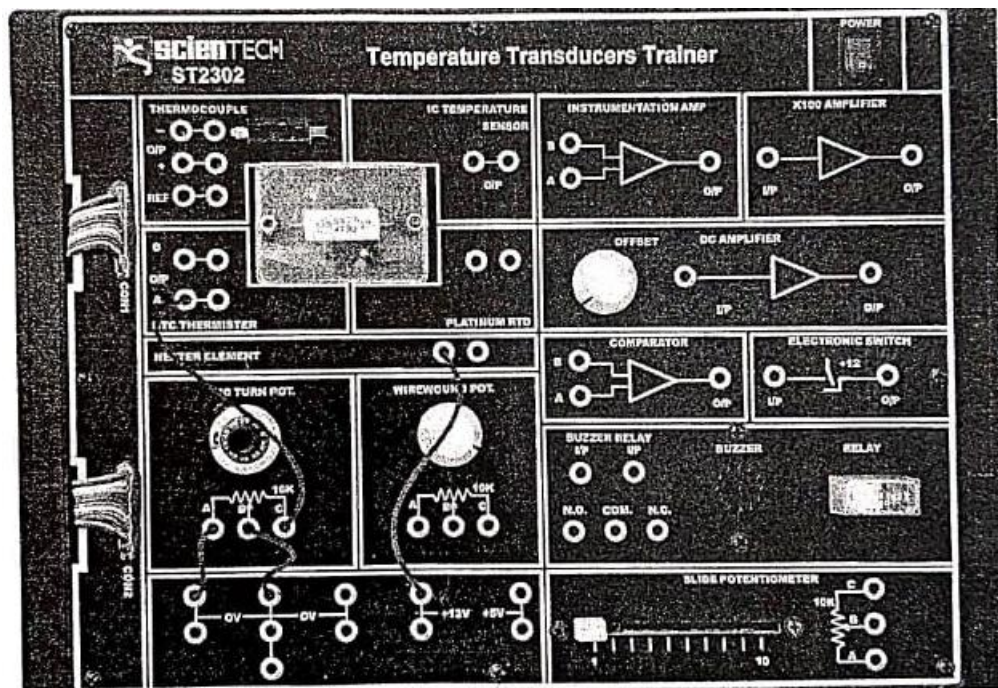

Figure 9(C).1
1. Connect the circuit as shown in Figure 9(C).1.